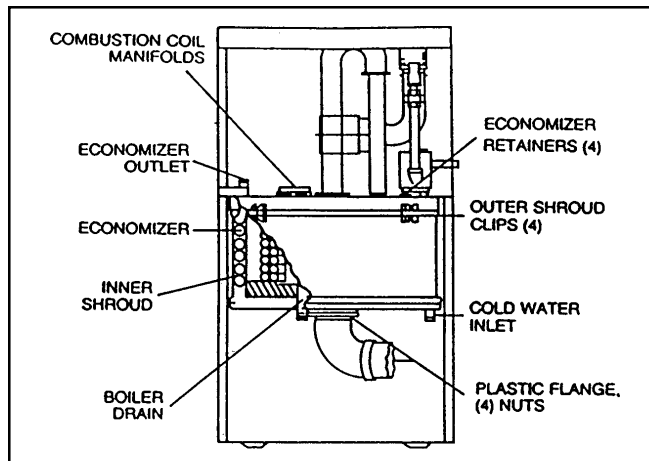

Figure 14. Cutaway view.
Note: In normal operation this procedure is seldom required. Should it prove necessary, the following procedure is used to access the coil for cleaning (see Figure 14).
5. Undo the four economizer retainer nuts. (see Figure 14). Remove the boiler drain valve.
6. Undo the four clamps that hold the outer shroud to the upper head. (see Figure 14)